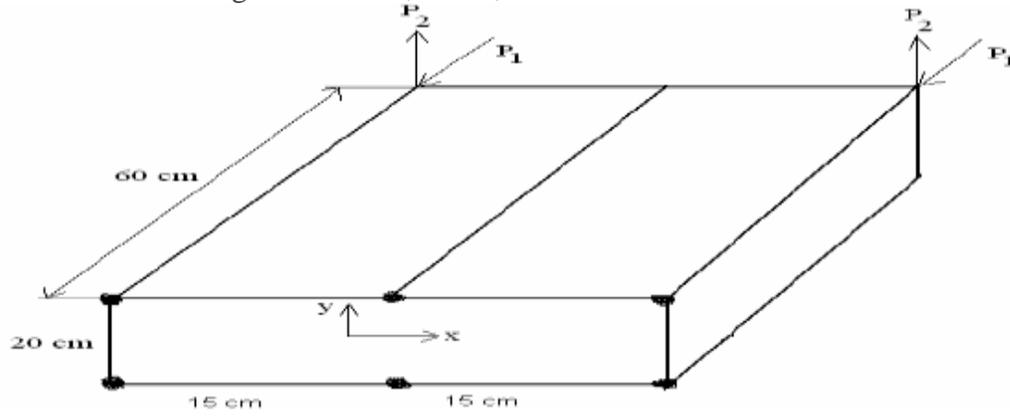

Fig 4
14. Check whether the Aluminium box beam shown in fig 4 will withstand the load without buckling. Also find the Margin of safety. Given $P_1 = P_2 = 5000 \text{ N}$; Uniform skin thickness = 1.5 mm; Area of each stringer = 2 cm^2 . Assume skin is 16 CO3 [K4]